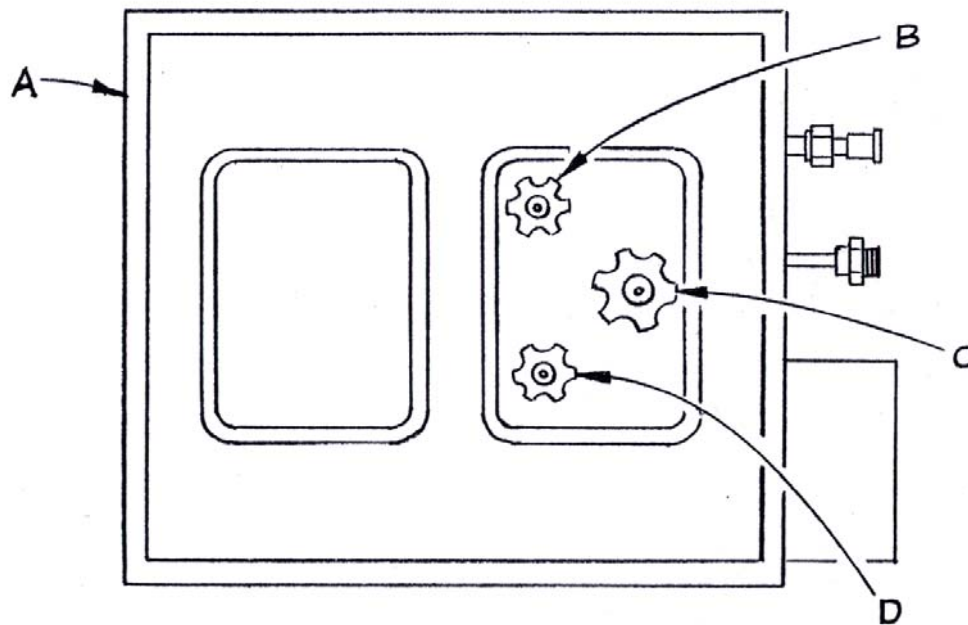

Figure 4-4: Isolation Valves Location
- FEED. Turn each hand valve clockwise to make certain it is closed. (See Figure 4-4.)